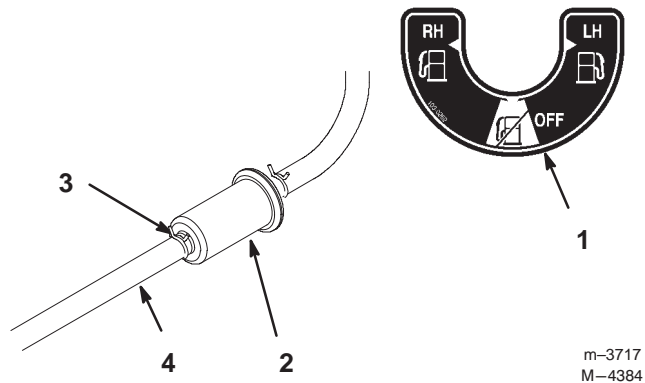

Figure 49
6. Install a new filter and move the hose clamps close to the filter (Fig. 49).
2. Close fuel shut-off valve (Fig. 49).
3. Loosen the hose clamp at the fuel filter and slide it up the fuel line away from the fuel filter (Fig. 49).
4. Pull the fuel line off fuel filter (Fig. 49). Open fuel shut-off valve and allow gasoline to drain into a gas can or drain pan.
5. Install the fuel line onto the fuel filter. Slide the hose clamp close to the fuel filter to secure the fuel line (Fig. 49).